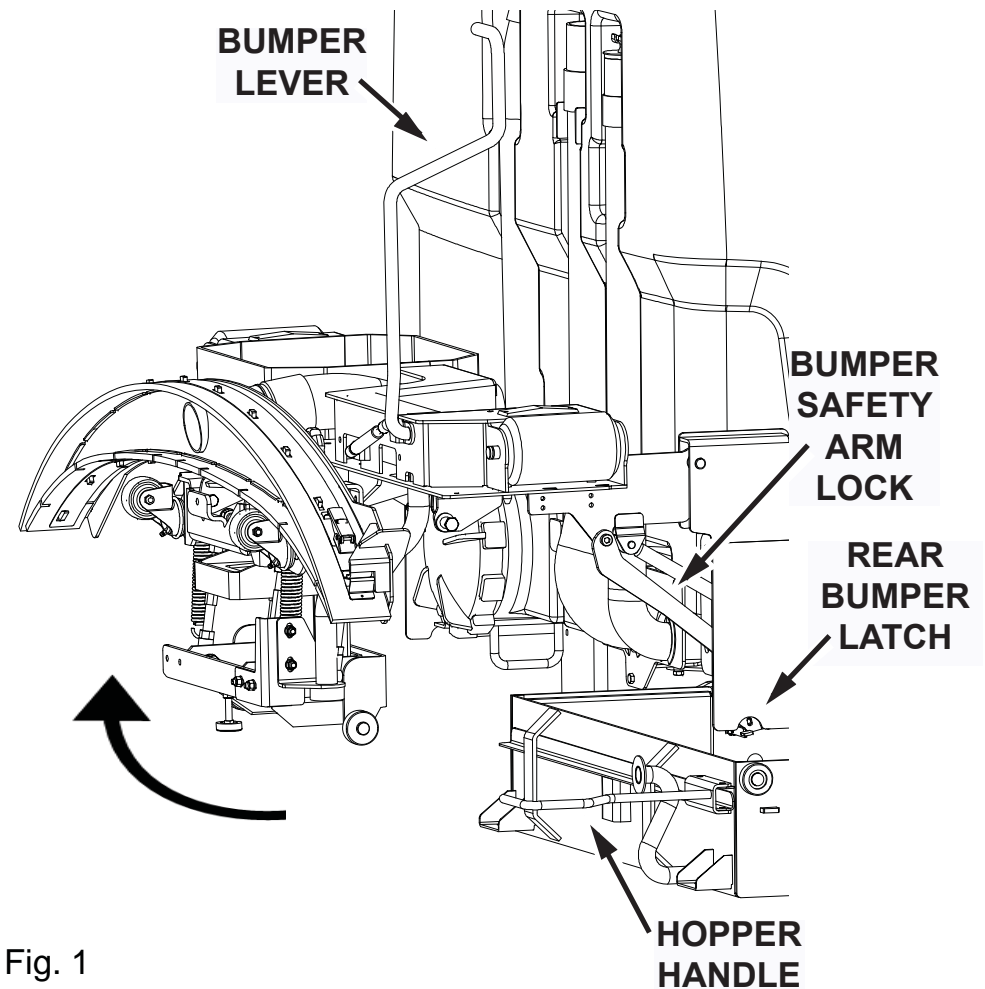

Fig. 1
5. Locate the orange hopper handle under the right rear corner of the machine and pull the hopper cradle back and down onto the floor. (See Fig. 1)